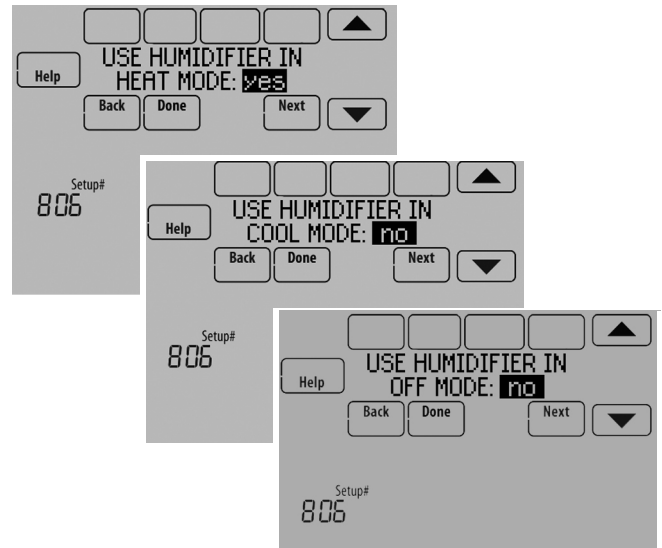

Fig. 118.
4. Select the system mode(s) to allow humidification. See Fig. 118.